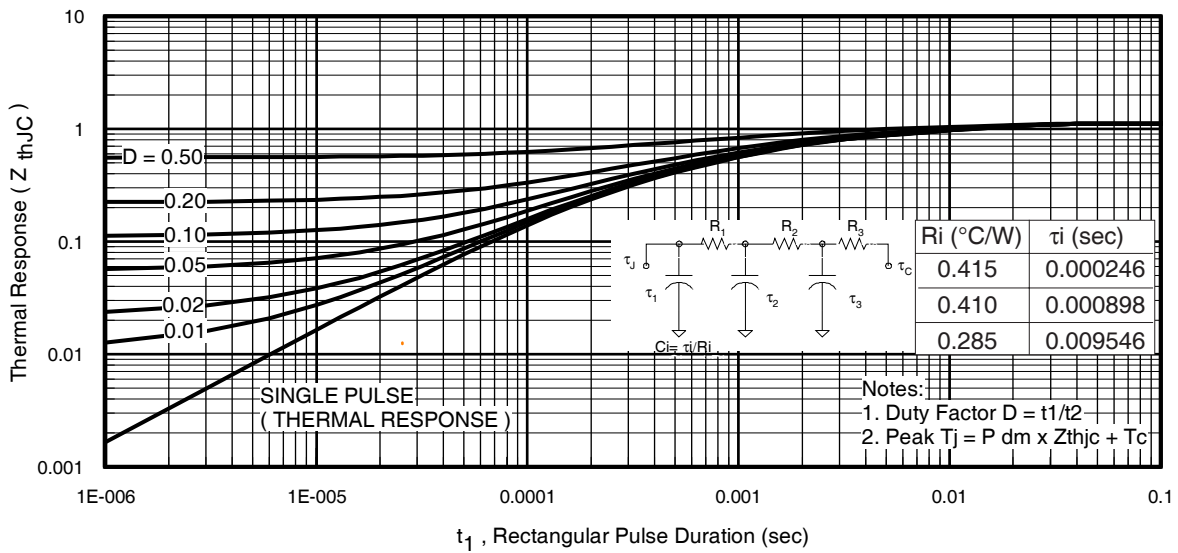
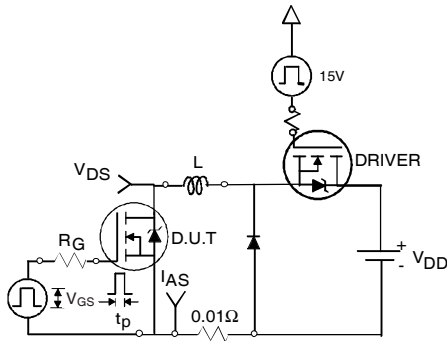

Fig 11. Maximum Effective Transient Thermal Impedance, Junction-to-Case
Fig 12a. Unclamped Inductive Test Circuit
- ① Repetitive rating; pulse width limited by max. junction temperature. (See fig. 11).
- ② Limited by T_{Jmax} , starting $T_J = 25^\circ\text{C}$, $L = 0.077\text{mH}$, $R_G = 25\Omega$, $I_{AS} = 51A$, $V_{GS} = 10V$. Part not recommended for use above this value.
- ③ $I_{SD} \leq 51A$, $di/dt \leq 260A/\mu s$, $V_{DD} \leq V_{(BR)DSS}$, $T_J \leq 175^\circ\text{C}$.
- ④ Pulse width $\leq 1.0\text{ms}$; duty cycle $\leq 2\%$.
- ⑤ $C_{oss\ eff.}$ is a fixed capacitance that gives the same charging time as C_{oss} while V_{DS} is rising from 0 to 80% V_{DSS} .
- ⑥ Limited by T_{Jmax} , see Fig.12a, 12b, 15, 16 for typical repetitive avalanche performance.
- ⑦ This value determined from sample failure population. 100% tested to this value in production.
- ⑧ This is applied to D²Pak, when mounted on 1" square PCB (FR-4 or G-10 Material). For recommended footprint and soldering techniques refer to application note #AN-994.
3. Equation below based on circuit and waveforms shown in Figures 12a, 12b.
$Z_{thJC}(D, t_{av})$ = Transient thermal resistance, see figure 11)